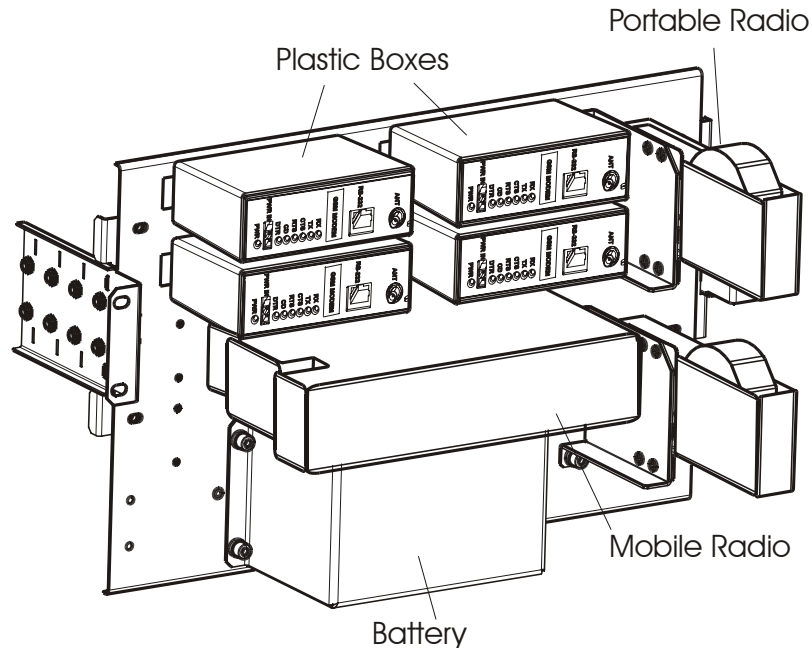

Figure 2-6 Installation of ACE3600 RTU 19" Rack Accessories - General View
- 6) From the standard rack unit, remove the two modules from the leftmost slots and the two modules from the rightmost slots. For the 19" accessories metal chassis, no accessories need to be removed. (See Figure 2-6.)